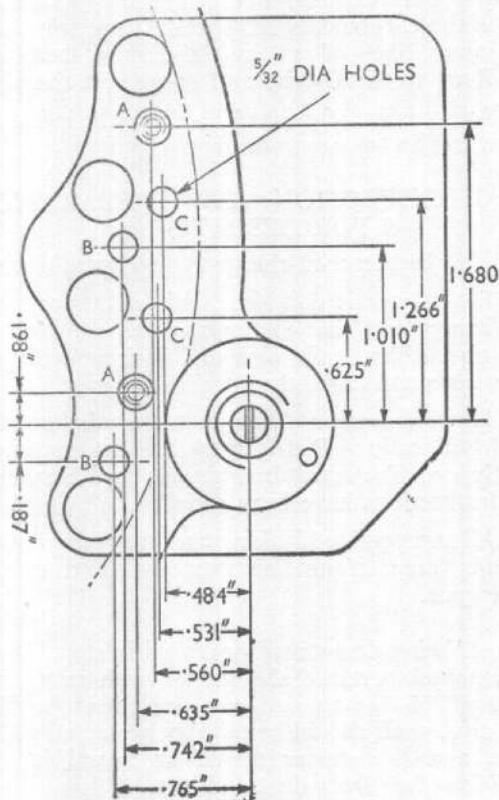

Fig. 38. Pilot hole positions
On a number of early starters the pilot holes referred to above in sub-para. (8) will not have been drilled. Reference should therefore be made to Fig. 38 for the correct drilling positions.